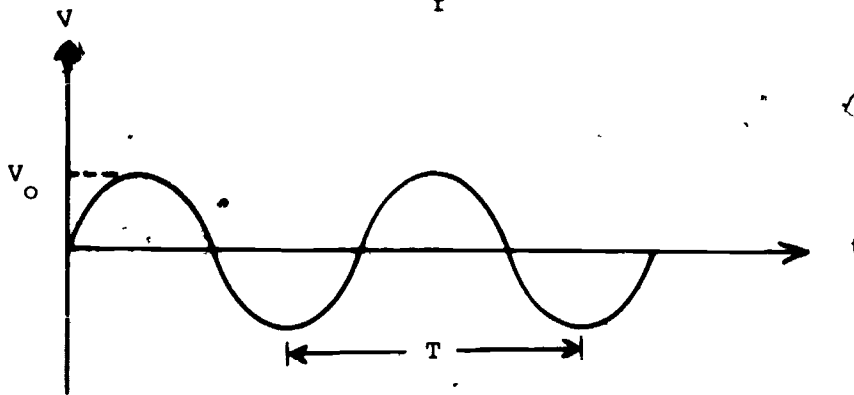

Figure 9.
where V_o is the amplitude as indicated in Figure 9, f is the frequency, and t is time. The period (T) of the wave (or oscillation) is related to the frequency by